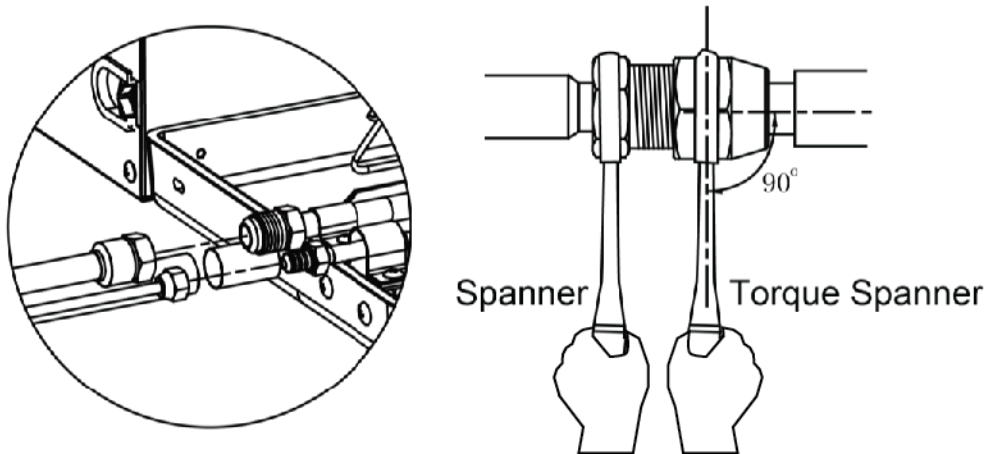

Fig. 30
4. Please use a torque wrench to connect union nut on the indoor unit. See Fig. 30.